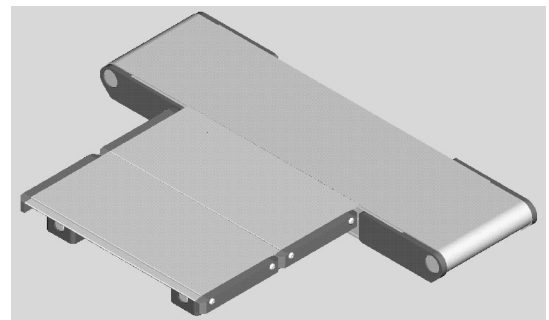

Figure 2
- 12" (305mm) Side Table on 2200 Series conveyor (Figure 2)